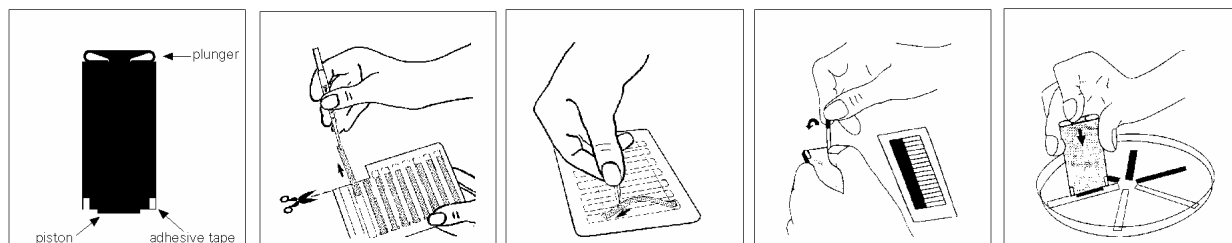

Fig. 1. Etest Applicator. Fig. 2. Opening package. Fig. 3. Filling tray. Fig. 4. Applying tape. Figure 5. Applying strips
- It consists of a plunger, piston and double sided adhesive tapes on each side of the piston (Figure 1 and 4).